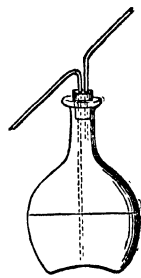

FIG. 4.
3. *A Washing-Bottle*, which is used for washing filtrates when draining in their filter papers, may be made thus. Get any sort of pint bottle (white glass if possible), clean it thoroughly, bend two pieces of glass tubing into the shapes shown in Fig. 4, pass them through a good cork that fits the bottle, and the washing-bottle is made. The end of the long tube, pointing downwards, is drawn out to a fine point, so as to give increased force and diminished volume to the stream of water blown out. In order to draw the tube to a point, it must, when quite dry, be exposed to the flame of the blowpipe until red hot. When it is so, another piece of tubing, also heated, should be applied to it, till the two stick together; then draw the assistant tube gradually away, and it will attenuate its adherent till that comes to a point. If the point be blind, nip off the extreme end with the teeth. To use the bottle, fill it with water (and all water used in analysis must be distilled water), and put in the cork with its tubes. Blow in at the smaller tube, and a strong penetrating stream of water will be ejected from the pointed end of the outletting tube.